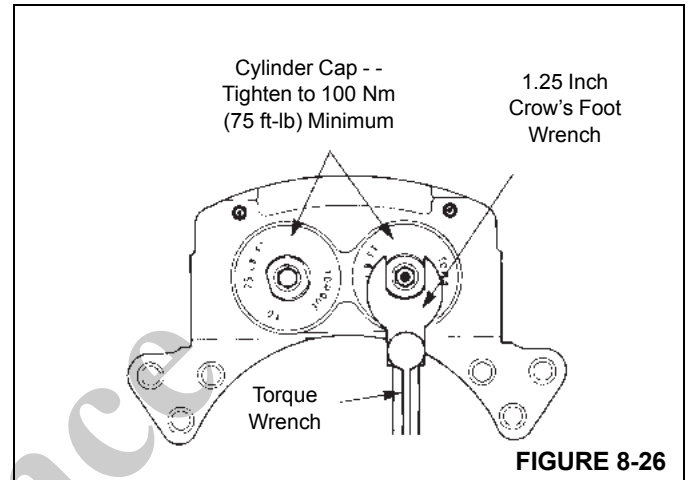

FIGURE 8-26
6. Install the cylinder caps in the caliper housing. Tighten the cylinder caps to 102 Nm (75 lb-ft) minimum as shown in Figure 8-26.